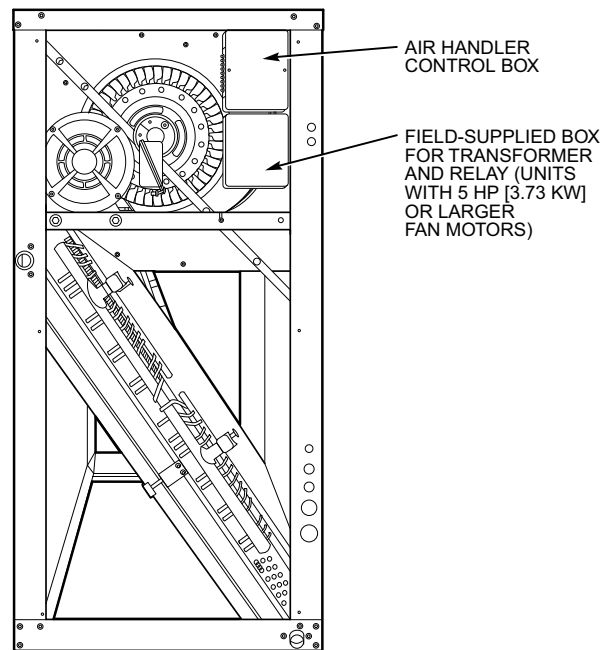

Fig. 8 — Installing Economizer Transformer and Relay
3. For air handlers without a circuit breaker in the control box (unit with fan motor sizes less than 5 hp [3.73 kW]) mount the transformer and relay inside the control box. Use the holes in the transformer base and relay base as guides to drill holes into the box and fasten components in place with supplied no. 8 x 1/2 in. sheet metal screws. See Fig. 8.
4. For air handlers with a circuit breaker in the control box (unit with fan motor sizes of 5 hp [3.73 kW] or greater), mount the supplied transformer and relay in a field-supplied and installed electrical box as shown in Fig. 8. Use the holes in the transformer base and relay base as guides to drill holes into the box and fasten components in place with supplied no. 8 x 1/2 in. sheet metal screws.